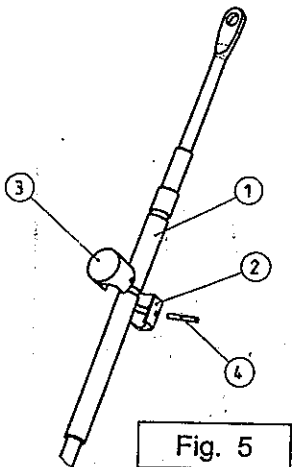

Fig. 5
2. **Use of F05 cables (see Fig. 5):** Insert the lower barrel in the groove, as shown in the Figure. Insert the upper barrel (3) matching it with the lower barrel (2). Insert the elastic pin (4), making sure that the holes of the two barrels are perfectly aligned. The F14 cable does not need any adapter.